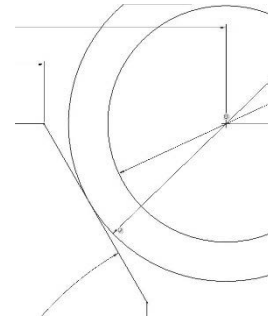

Figure 3-64 Zoom In
Step 29:  Select the **Zoom In** icon from the graphics toolbar. Draw an imaginary box around the area where the outer diameter of the pipe touches the slanted surface using the LMB. See Figure 3-64. Press the MMB to exit from this mode.